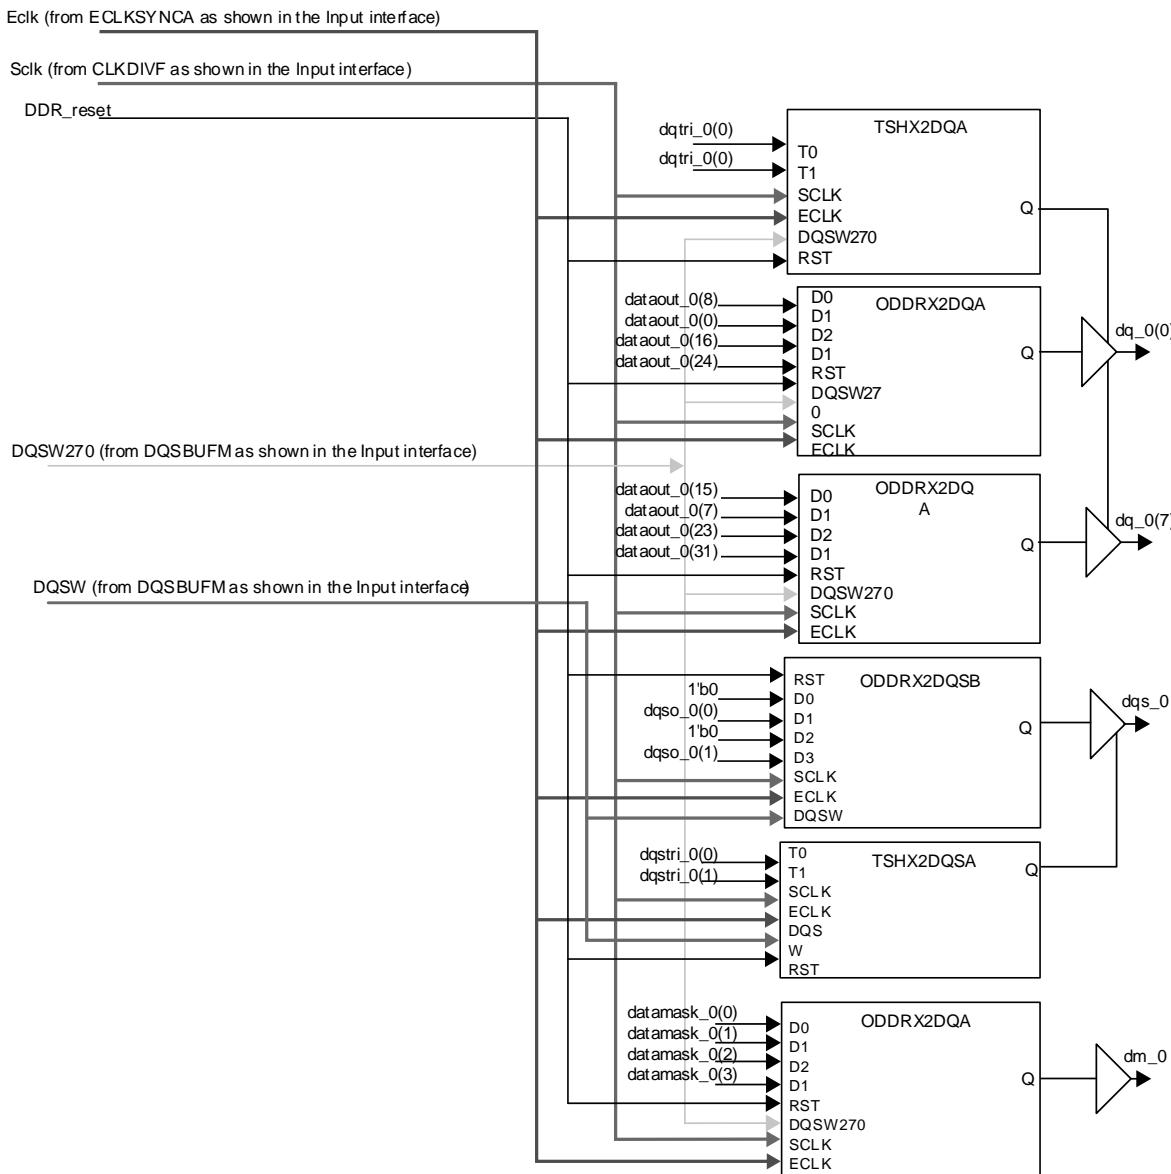

Figure 6.9. DDR3/DDR3L and LPDDR2/LPDDR3 Write Side (DQ, DQS, and DM)
Figure 6.9 shows the DDR3/DDR3L and LPDDR2/LPDDR3 memory interface write side implementation to generate DQ, DQS, and DM outputs.
- Figure 6.9 shows one tristate. The software generates one tristate element for each DQ port.